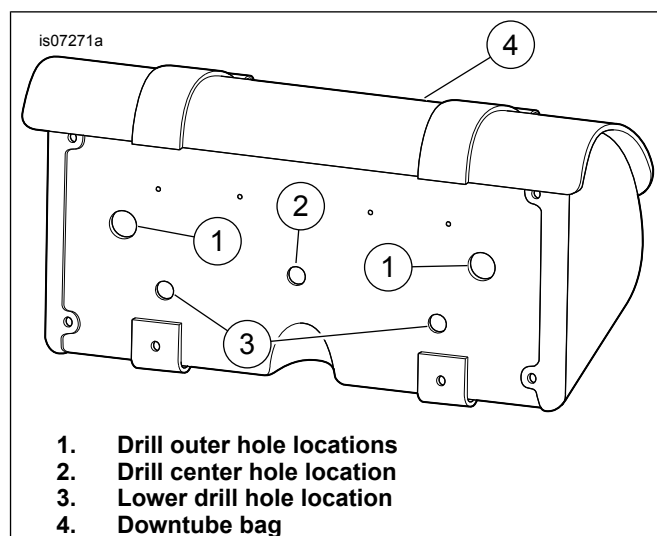
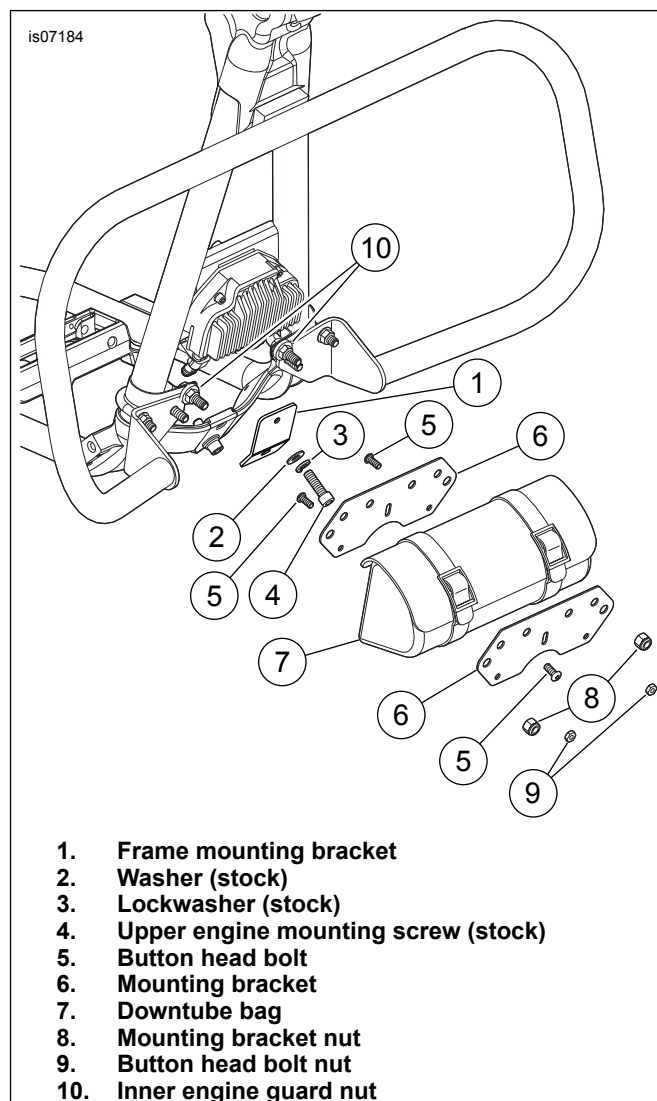

Figure 5. Drill Hole Location for Dyna Models With Engine Guard
Figure 6. Dyna Models With Engine Guard
1. See Figure 5. Starting with a 5 mm (3/16 in) drill bit, drill five pilot holes (1, 2, and 3) through the back of the downtube bag (4) at the locations specified. Drill indicators are located on the back of the plastic base. Take care not to damage the front face of the bag with the drill bit.
2. Enlarge the two outer mounting holes (1) using a 10.5 mm (13/32 in) diameter drill. Enlarge the center mounting hole (2) and lower mounting holes (3) using a 7.25 mm (9/32 in) diameter drill.
3. See Figure 6. Place one mounting bracket (6) against the back of the downtube bag (7). Align the holes in the mounting bracket with the holes in the bag. Insert two button head bolts (5) through lower mounting holes.
5. Install nuts (9) over button head bolts on the inside of the bag. Tighten nuts to 6.8 N·m (60 in-lbs).
6. Remove the upper engine mount screw (4), lockwasher (3) and washer (2).
7. Place the bag assembly against the frame mounting bracket (1). Insert button head bolt (5) from inside the bag into threaded nut on the frame mounting bracket. Fasten bolt loosely.
8. Remove the two inner engine guard nuts (10).